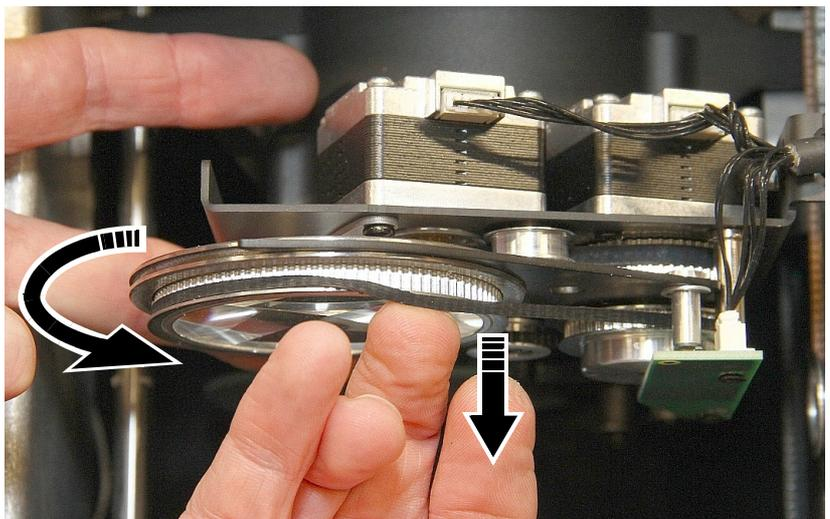

Figure 22: Disengaging the prism drive belt
4. See Figure 22. Rotate the prism counter-clockwise while at the same time pulling the prism drive belt over the lip of its channel in the prism holder, so that the belt is gradually drawn out of the channel.